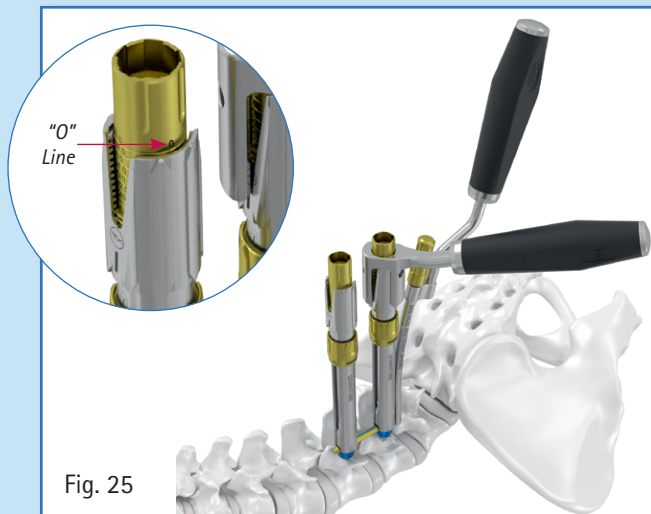

Fig. 25
- The rod is fully seated when the "O" line is aligned with the top of the Downtube. (Fig. 25)
1. Place the Counter Torque Handle (SZ392R) on the Downtube. (Fig. 25)